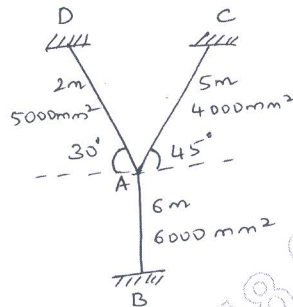

Fig.Q.7
- 7 In the pin jointed truss shown in Fig.Q.7 all the members are cooled upto  $20^\circ\text{C}$ . Take  $\alpha = 1.2 \times 10^{-5}/^\circ\text{C}$ .  $E = 2 \times 10^5 \text{ N/mm}^2$  for all the members. Find the displacement and forces in all the members. (16 Marks)